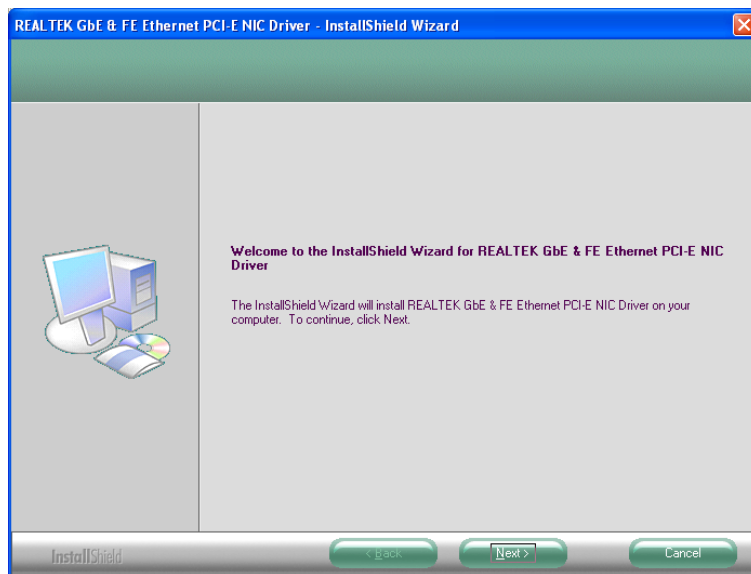

Figure 6-15: LAN Driver Welcome Screen
Step 2: The **Welcome** screen in **Figure 6-15** appears.